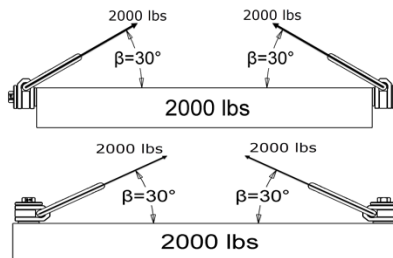

Fig 5
- Depending upon the sling angle, the applied load may be more than the weight being lifted i.e., two-point lifting of a 2000 pounds weight with a horizontal sling angle of 30° will result in an applied load of 2000 pounds to each hoist ring! (chart above & Fig.5).